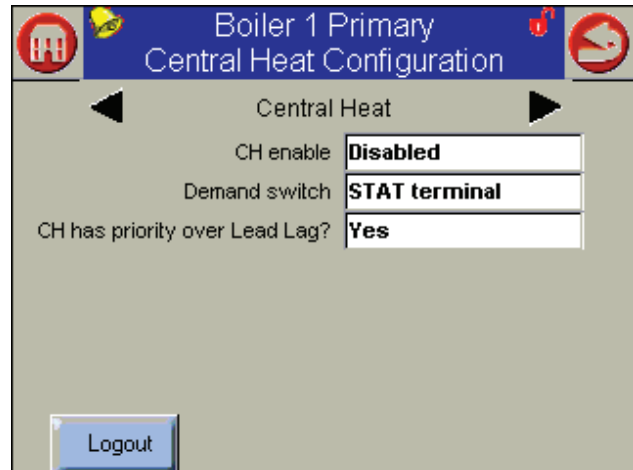

Fig. 39 - Central Heat Configuration
4. Next, we will show you how to change one of these parameters. Let's turn on the Central Heat function. On the Configuration Screen (Fig. 38), scroll down and press the line for CH – Central Heat Configuration. Figure 39 shows the screen which follows.